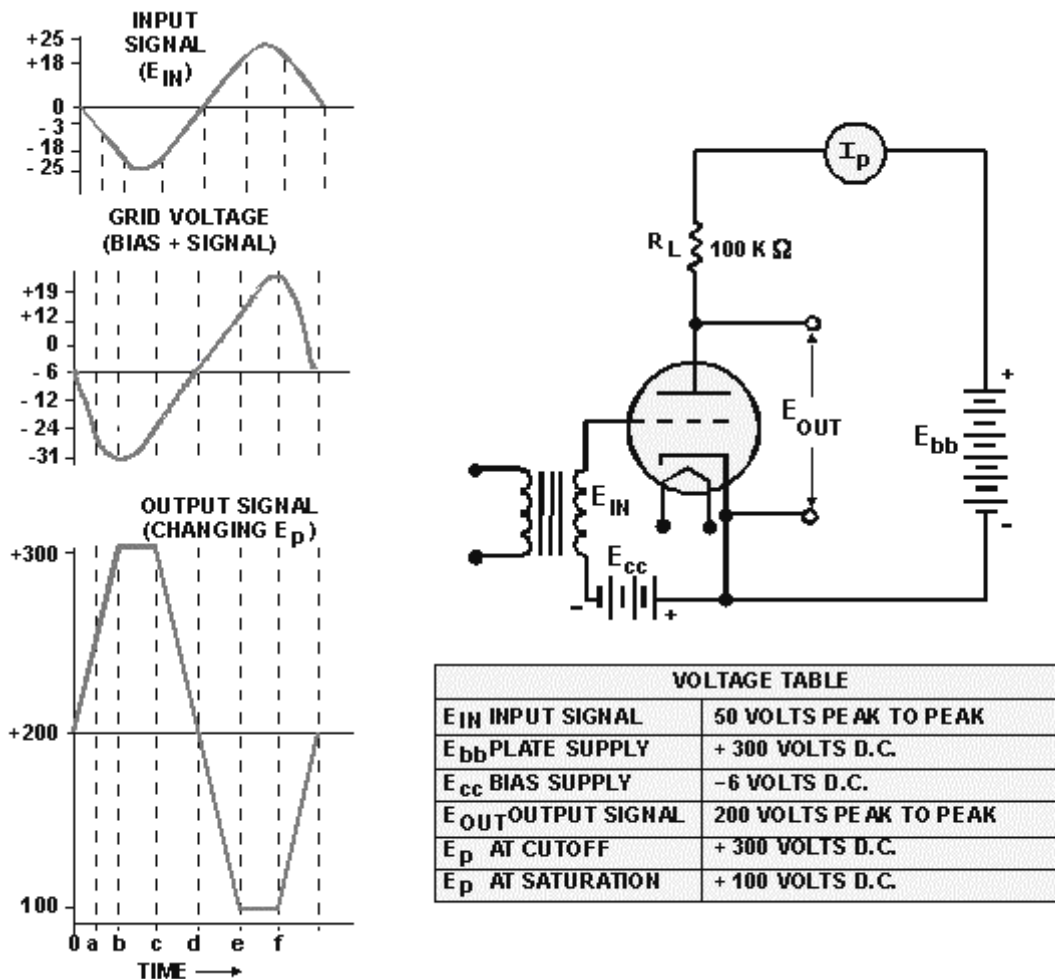

Figure 1-20.—Overdriven triode.
Look at time zero (0) in the waveforms of figure 1-20. The input signal (E_{in}) is at zero volts. Grid voltage equals the bias voltage (-6 volts), and one milliampere of current is flowing through the tube (quiescent state). Plate voltage (E_p) is 200 volts.
During the next cycle, the same process will be repeated, with C_c charging on the positive alternation and discharging a lesser amount during the negative alternation. Therefore, at the end of the second cycle, C_c will have an even larger negative charge than it did after the first cycle. You might think that the charge on C_c will continue to increase until the tube is forced into cutoff. This is not the case. As the negative charge on the right-hand plate of C_c forces the grid more negative, electrostatic attraction between the grid and cathode decreases. This, in effect, increases the resistance (rgk) between the cathode and the grid, until rgk becomes, in effect, the same size as R_g . At this point, charge and discharge of C_c will equal one another and the grid will remain at some negative, steady voltage. What has happened in this circuit is that C_c and R_g , through the use of unequal charge and discharge paths, have acted to change the ac input to a negative dc voltage. The extent of the bias on the grid will depend on three things: the amplitude of the input, the frequency of the input, and the size of R_g and C_c . This type of biasing has the advantage of being directly related to the amplitude of the input signal. If the amplitude increases, biasing increases in step with it. The main limiting factor is the amount of distortion that you may be willing to tolerate. Distortion occurs during the positive alternation when the grid draws current. Current drawn from the electron stream by the grid never reaches the plate; therefore the negative-going output is *not* a faithful reproduction of the input, while the positive-going output (during the negative input cycle) *will be* a faithful reproduction of the input. This is similar to the situation shown in the flattened portion of the output signal in figure 1-20.